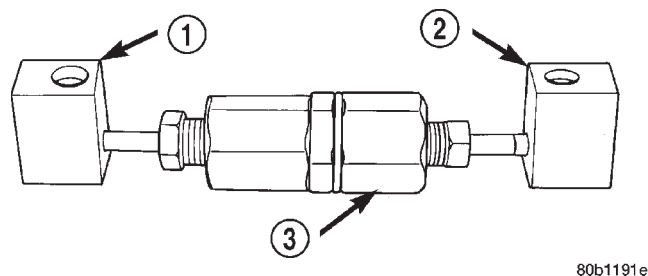

Fig. 22 Pressure Test Fitting Installed In Proportioning Valve
(4) Install Pressure Test Fitting, Special Tool 8187 in the inlet port of the proportioning valve (Fig. 22). Install Pressure Test Fitting, Special Tool 8187-2 in the outlet port of the proportioning valve (Fig. 22). Tighten tube nuts to a torque of 17 N·m (145 in. lbs.).